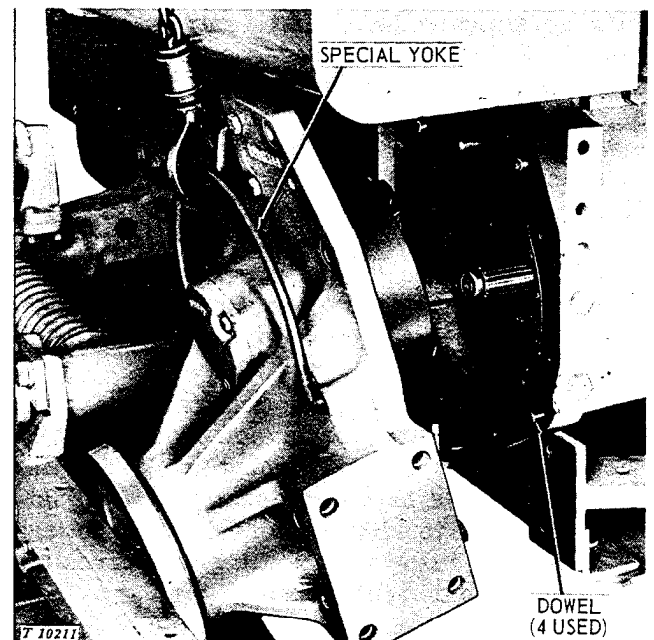

Fig. 20-15-6—Removing Final Drive
15. Using a chain hoist, lift final drive assembly away from steering clutch housing (Fig. 20-15-6). The special yoke shown can be constructed from 1/2-inch round stock and will facilitate removal of the final drive assembly.
Coat machine mounting surface of final drive housing with joint sealing compound and install final drive assembly on mounting dowels using a hoist and special yoke (Fig. 20-15-6)